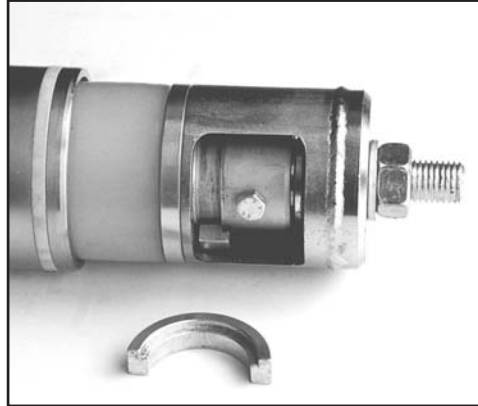

FIG. 67: INSTALLING SEGMENTED RINGS
19. Tighten the screw of the control tube end so that the elastic block is compressed and both halves of the segmented rings can be installed (see Fig. 67).